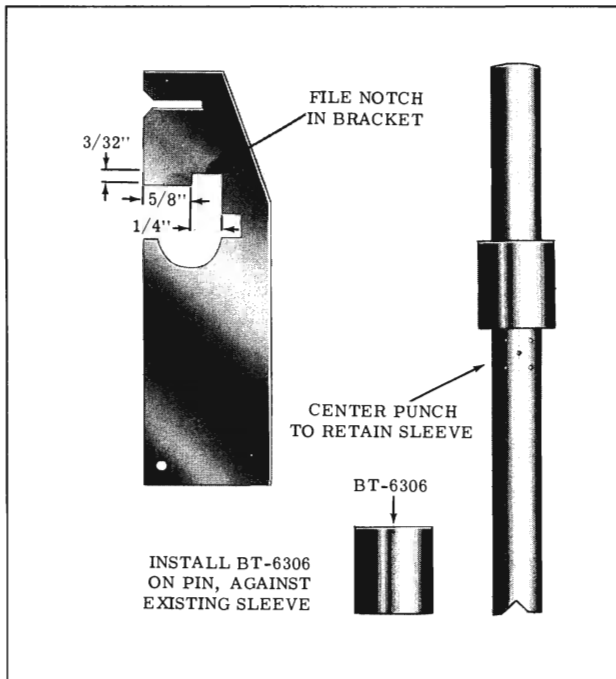

Fig. 6-48 Nose Angle Tool Modifications
**CAUTION:** Before checking nose angle, make sure tools have been modified as shown in Fig. 6-48.